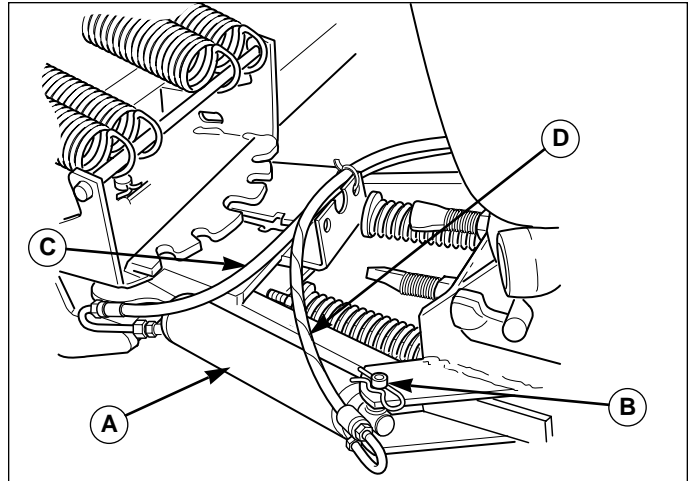

Figure 29. Dozer Hydraulic Cylinder
1. Install the cylinder (A, Figure 29) onto the dozer blade using clevis pins and hair pin clips (B) as shown. Connect the cylinder rod to the front of the dozer blade.
4. Attach the 1/2" x 28" hose with the male quick connector (C, Figure 29) to the front (piston side) fitting of the cylinder.
5. Attach the 1/2" x 28" hose with the female connector (D, Figure 29) to the back (base side) fitting of the cylinder.